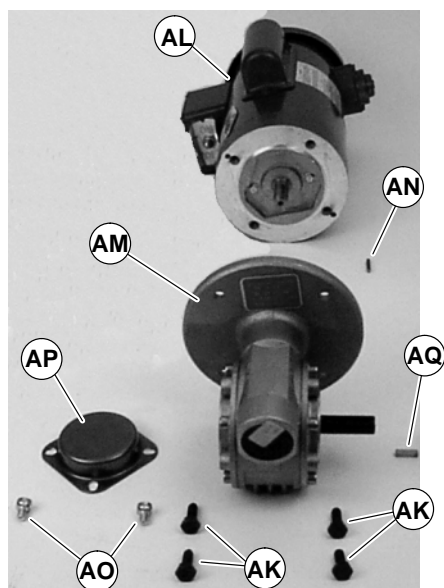

Figure 23
8. Remove four screws (AK of Figure 23). Detach motor (AL) from gear reducer (AM). Retain motor output shaft key (AN).
14. With key (AN of Figure 23) in keyway, slide motor (AL) and gear reducer (AM) together. Install screws (AK) and tighten.